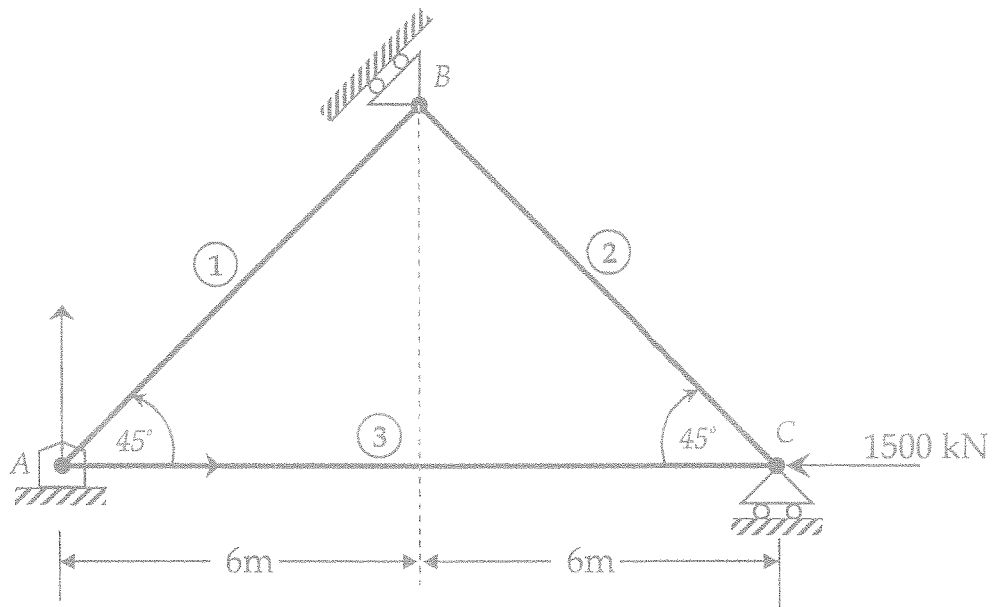

Fig. Q4
Q4. A Pin-jointed 2D truss is pinned support at Node A and roller support at Nodes B and C as shown in Fig Q4. The Young's modulus $E = 220 \text{ GPa}$ for all three elements and cross-section area $A = 6 \times 10^{-4} \text{ m}^2$ for element (1) and (2), $6\sqrt{2} \times 10^{-4} \text{ m}^2$ for element (3). The truss system is subjected to a force 1500 kN at Node C, as indicated in Fig. Q4.